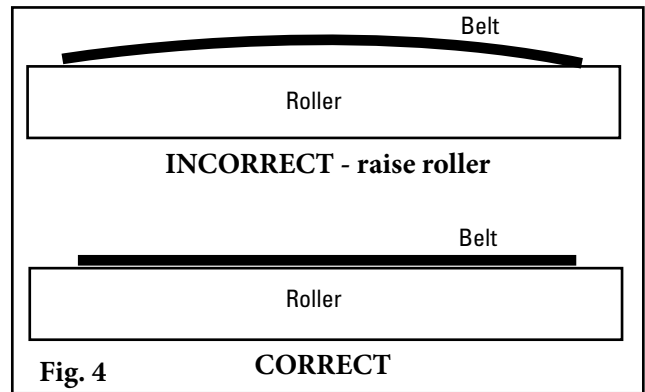

Fig. 4
- 4. Lower the belt.** Ensure belt completely contacts roller. Raise brackets if there is not good contact (Fig. 4). Tighten all bolts.
4. Adjust sensor rollers so they are 19mm from the belt on each side. Adjust by turning the "C" bolts (Fig. 4).